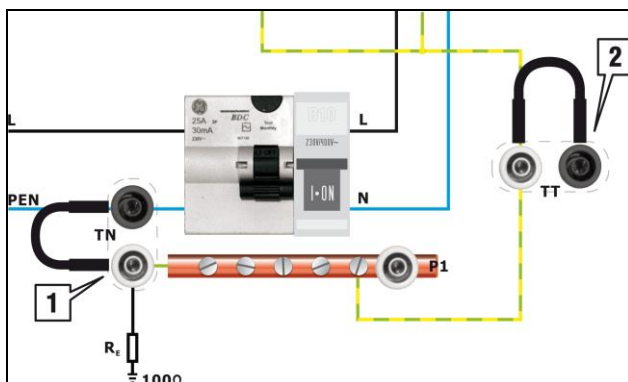

Fig. 3. Network type selection jumpers.
- select the kind of TT or TN network using a jumper in the appropriate position (Figure 3),
- select the kind of network, **TT** or **TN**, using the jumper in the appropriate position (Fig. 3),
- select the kind of network, **TT** or **TN**, using the jumper in the appropriate position (Figure 3),